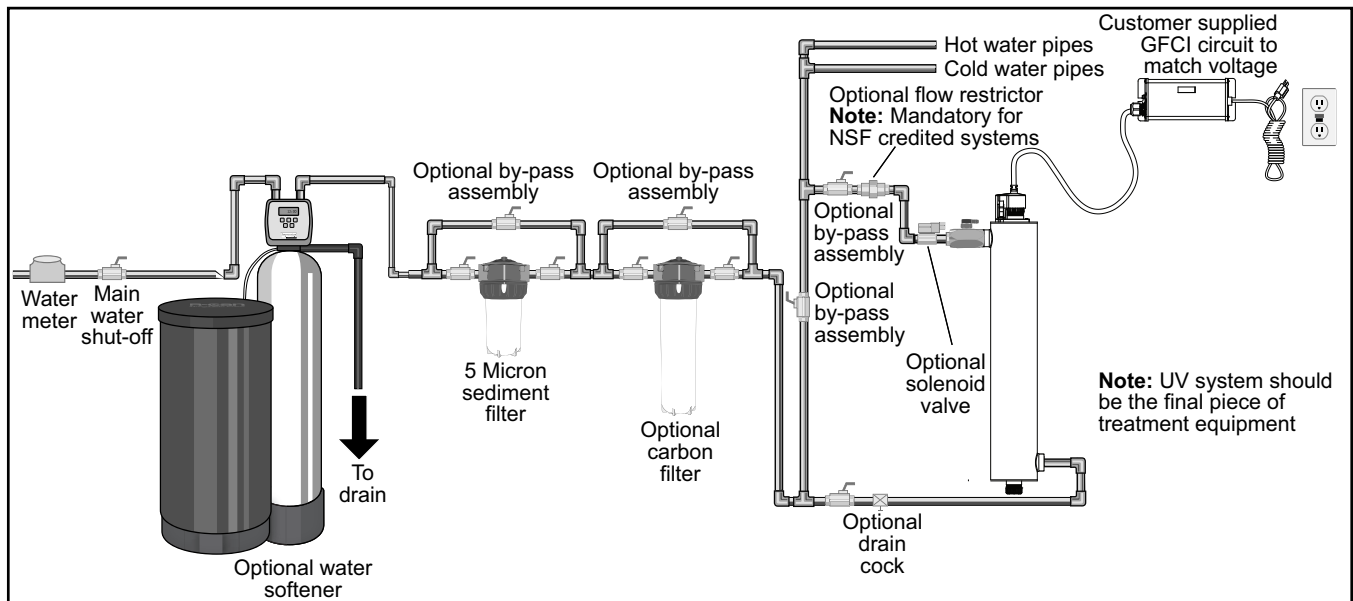

Figure 3 UV Treatment System
1. Figure 3 shows the installation of a typical UV system and the related components that may be used for the installation. The use of a by-pass assembly is recommended in case the system requires “off-line” maintenance. In this case, it requires a supplementary disinfectant for the distribution system if any water is used during by-pass condition. In addition, during by-pass, the water will NOT be treated and a “DO NOT CONSUME THE WATER” tag should be physically installed on the by-pass assembly until such time as the system is sanitized and returned to service. For